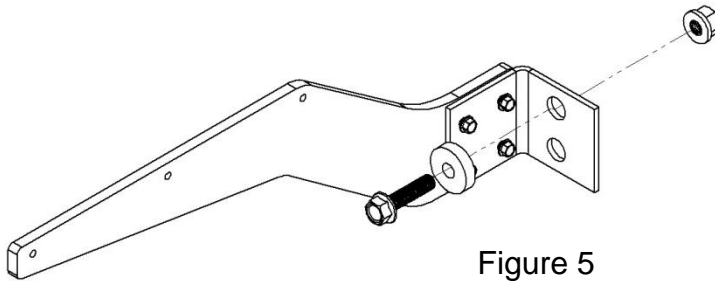

Figure 5
- D. Install center bracket assembly (Figure 5).